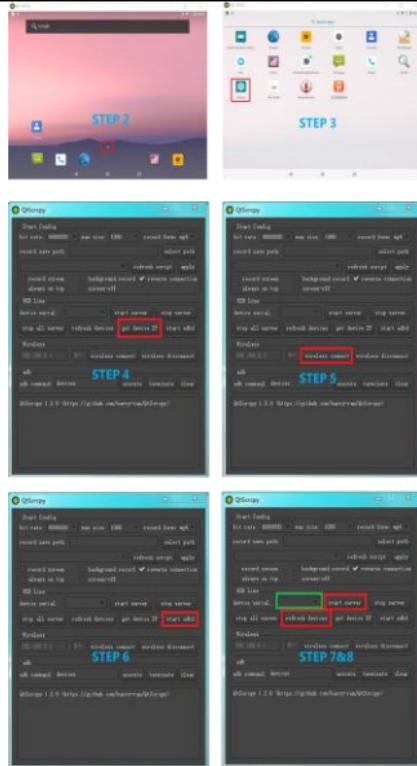

Figure 32. Helmet wireless projection
Step 2: Click the small arrow in the red box on the main screen to enter the next interface, and select “setting” (See Figure 32)